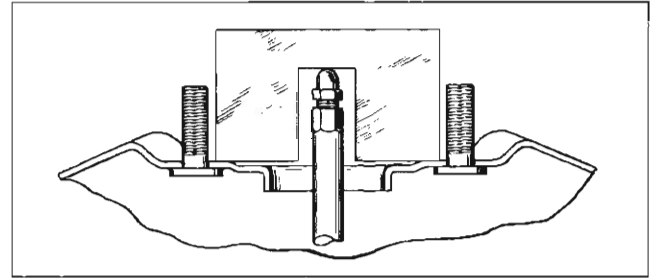

Fig. 21—Adjustment of Push Rod
15. Place Tool J-7723-01 over the push rod so that it fits between studs on front shell (fig. 21). Gauge should be parallel to studs and resting on surface of front shell. Cutout portion of gauge should just match height of push rod. Any variation may be compensated for by turning adjusting screw.